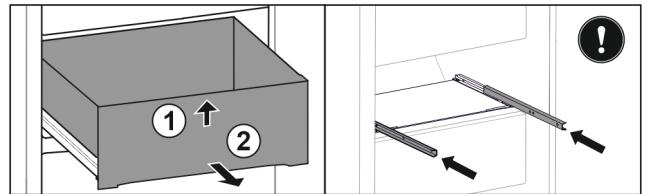

Fig. 28\*
- ▶ Lift up the drawer at the front Fig. 28 (1).\*
- ▶ Remove to the front Fig. 28 (2).\*